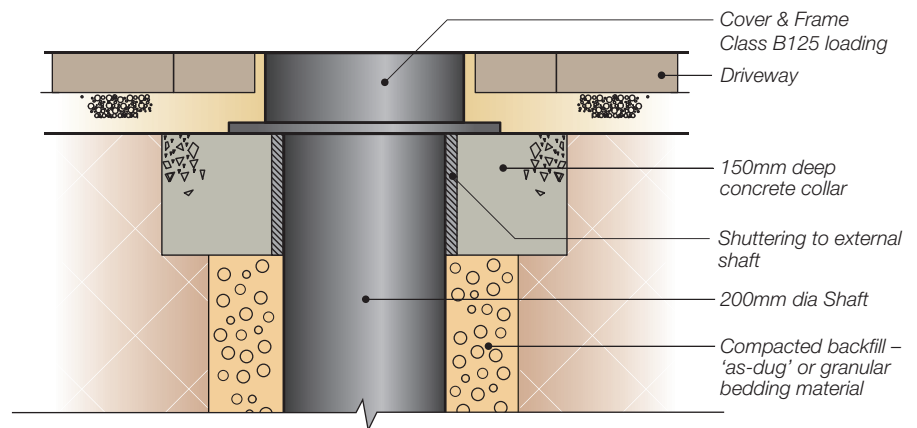

Fig.7. Installation detail for B125 loading: paved areas with limited traffic load; and for D400 loading: roads with heavy traffic loads
For B125 applications (See Fig.7)
- Protect shaft from traffic loading by shuttering the outside of the shaft (See Fig.7).
- According to required loading application, position Ductile Iron B125 Cover and Frame or D400 Cover and Frame on top of slab. (See Fig.7)